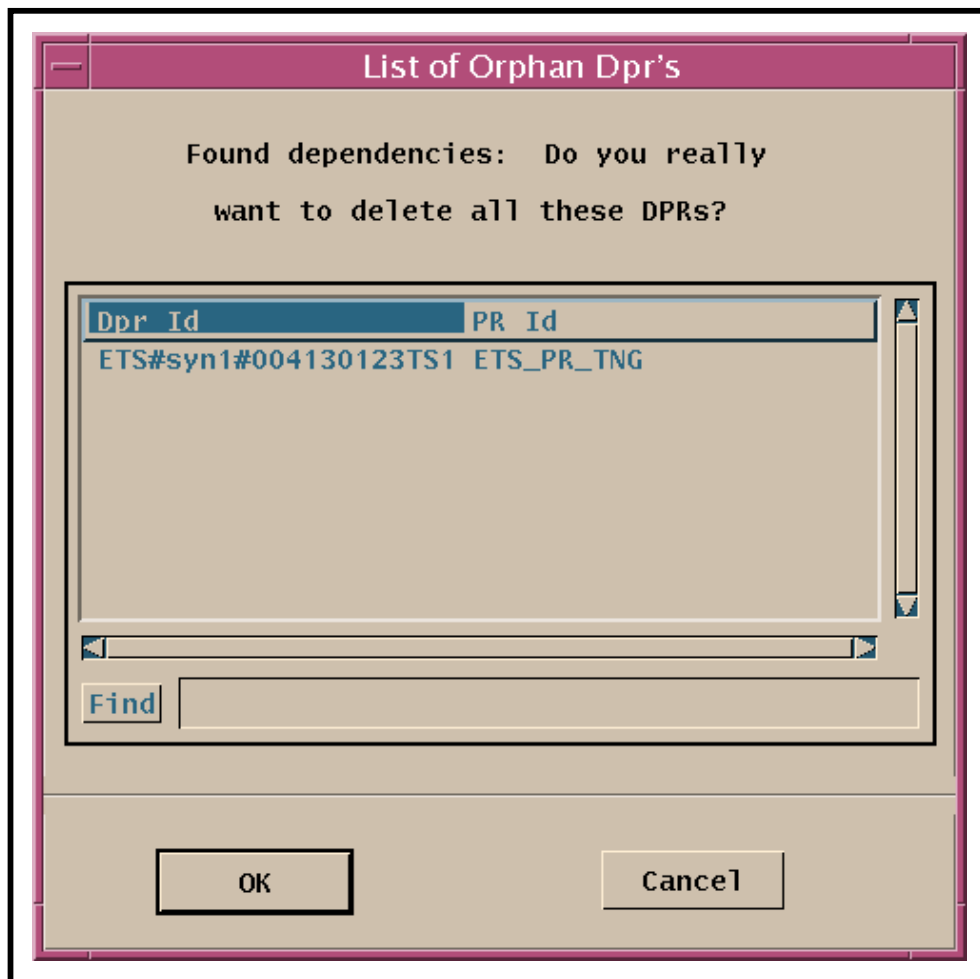

Figure 26. Production Request List of Orphan DPRs Dialogue Box
- If there are dependencies among Production Requests, a “List Of Orphan DPRs” dialogue box similar to Figure 26 is displayed.